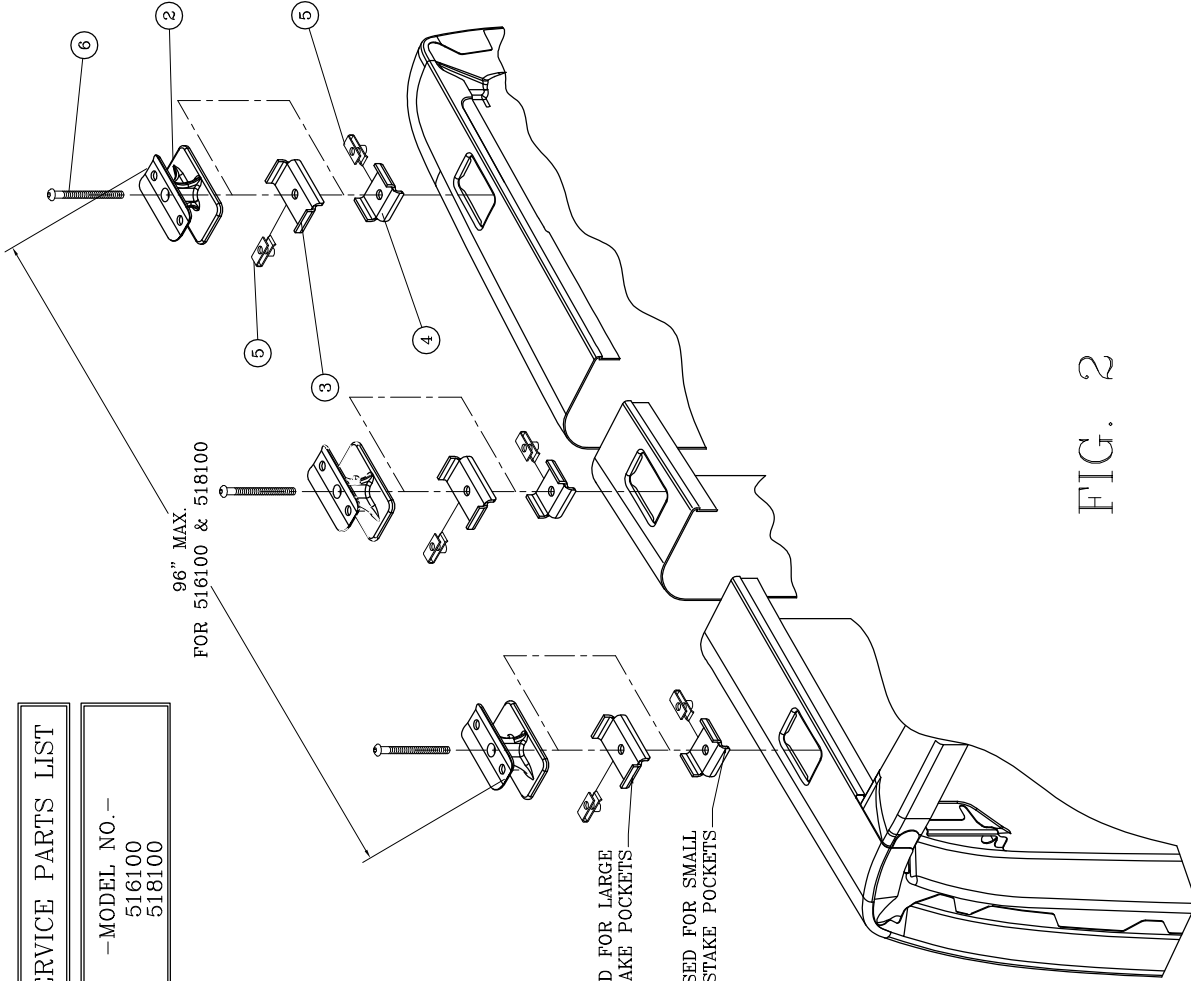

FIG. 2
- 2.2 The stake pockets on the trucks are various sizes, so we have supplied (2) different size mounting plates. Please take some time to determine which mounting plate will work for your application (item #3 or item #4). **YOU WILL NOT USE BOTH PLATES IN EACH STAKE POCKET.** However you may use a large plate in one pocket, and a small plate in the opposite pocket. See **fig 2**.
- 2.3 Once you have determined which mounting plates to use, please assemble the 5/16-18 multi thread u-nut (item #5) to the mounting plates (item #3 or item #4) as shown in **fig 2**.
- 2.6 Repeat for the middle and rear stake pockets. Use a bed rail to make sure the three bases line up. The **Maximum** overall dimension at the top of the black bases is 96". See **fig 2**.